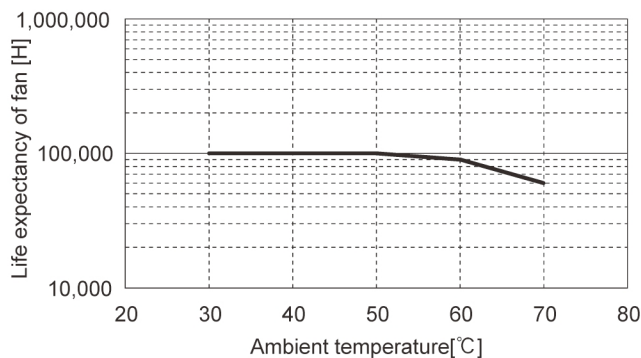

Fig.3.1 Life expectancy
- Life expectancy (R(t)=90%) of fan depends on use conditions as shown in Fig.3.1.